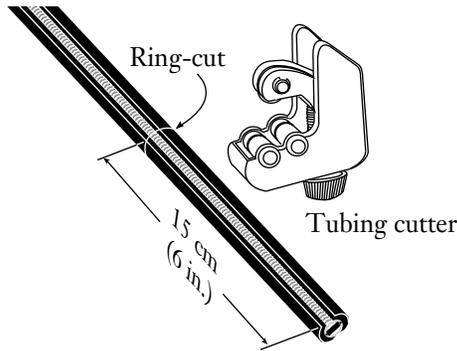
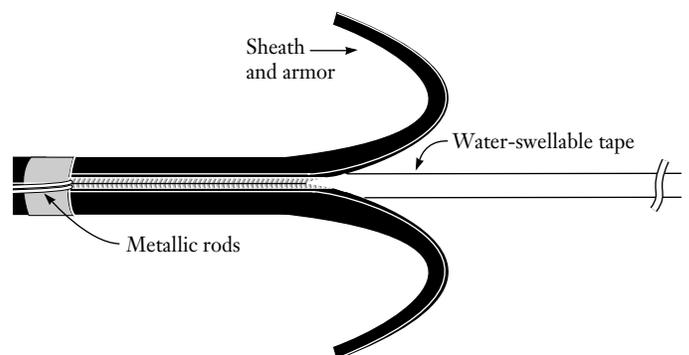

Figure 6
Figure 11
4.6 Taking care not to damage the central tube, use 1 1/8 inch capacity tubing cutter or a hook blade knife to make a shallow ring cut at a point 15 cm (6 in.) from the end of the cable (Figure 6).
4.12 For both cable types, bend the metallic rods away from the cable to allow a ring cut to be made at the tape wrap. Use the hook blade knife or tube cutter to perform the ring cut (reference Figure 6). Starting at the end of the cable, peel back both sections of split outer sheath (and armor, for armored cables) to expose the central tube (Figure 11).